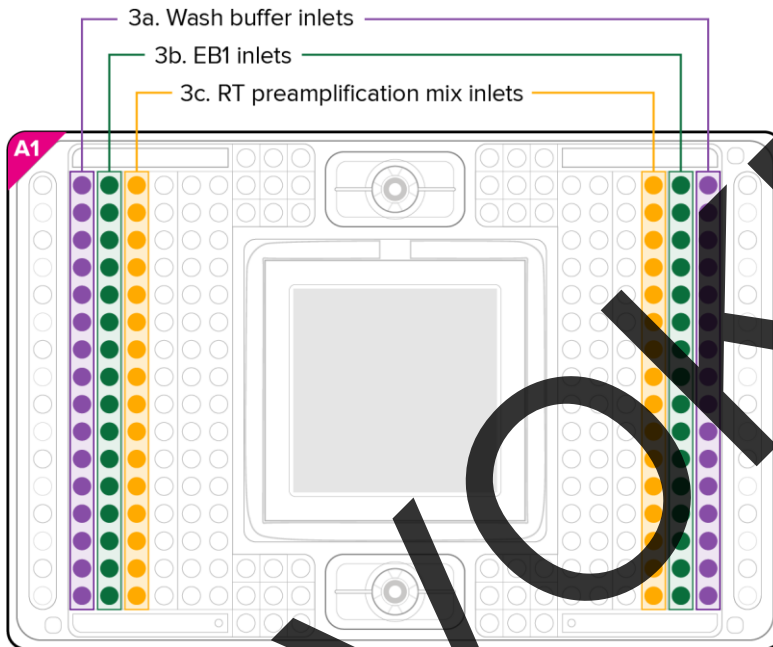

Figure 9. Pipetting buffers and RT preamplification mix for the 96.16 IFC
- 3 Pipet the buffers and RT preamplification mix into the IFC in the following order, as shown in Figure 9.